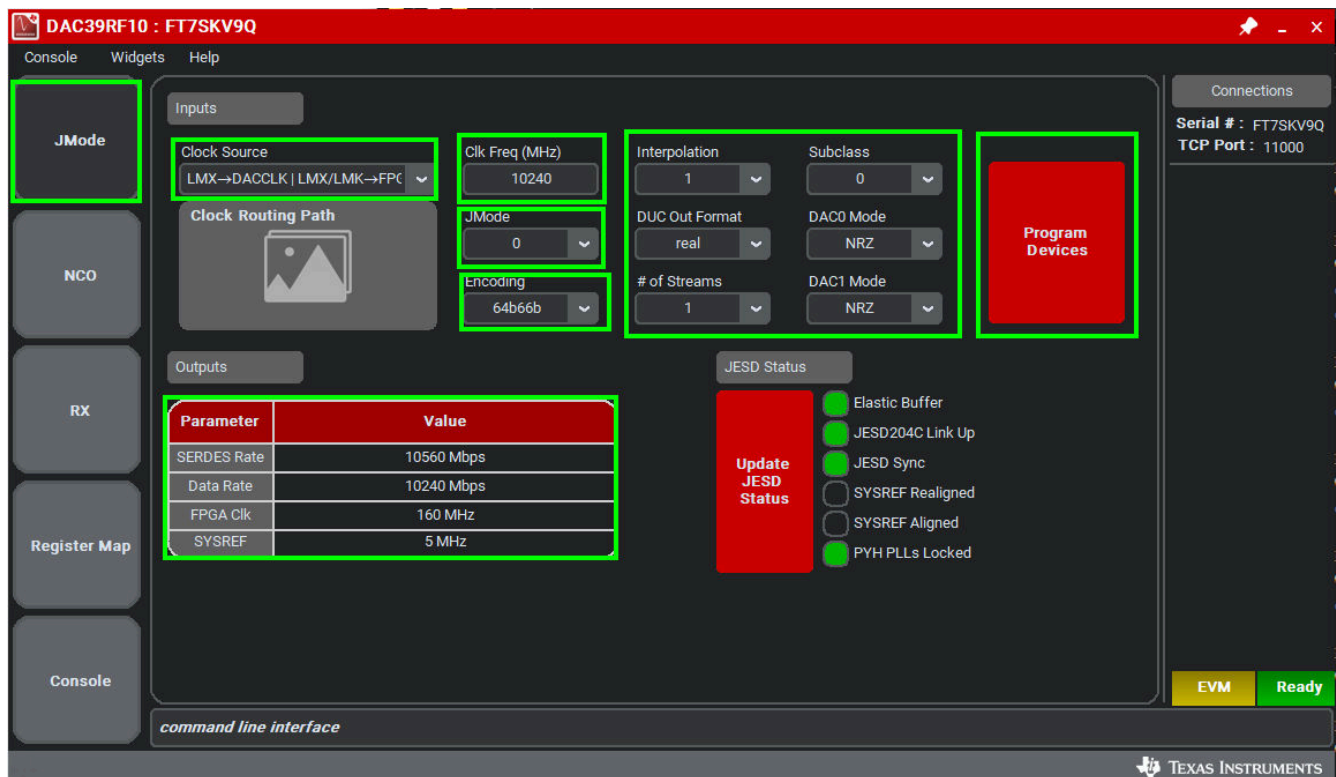
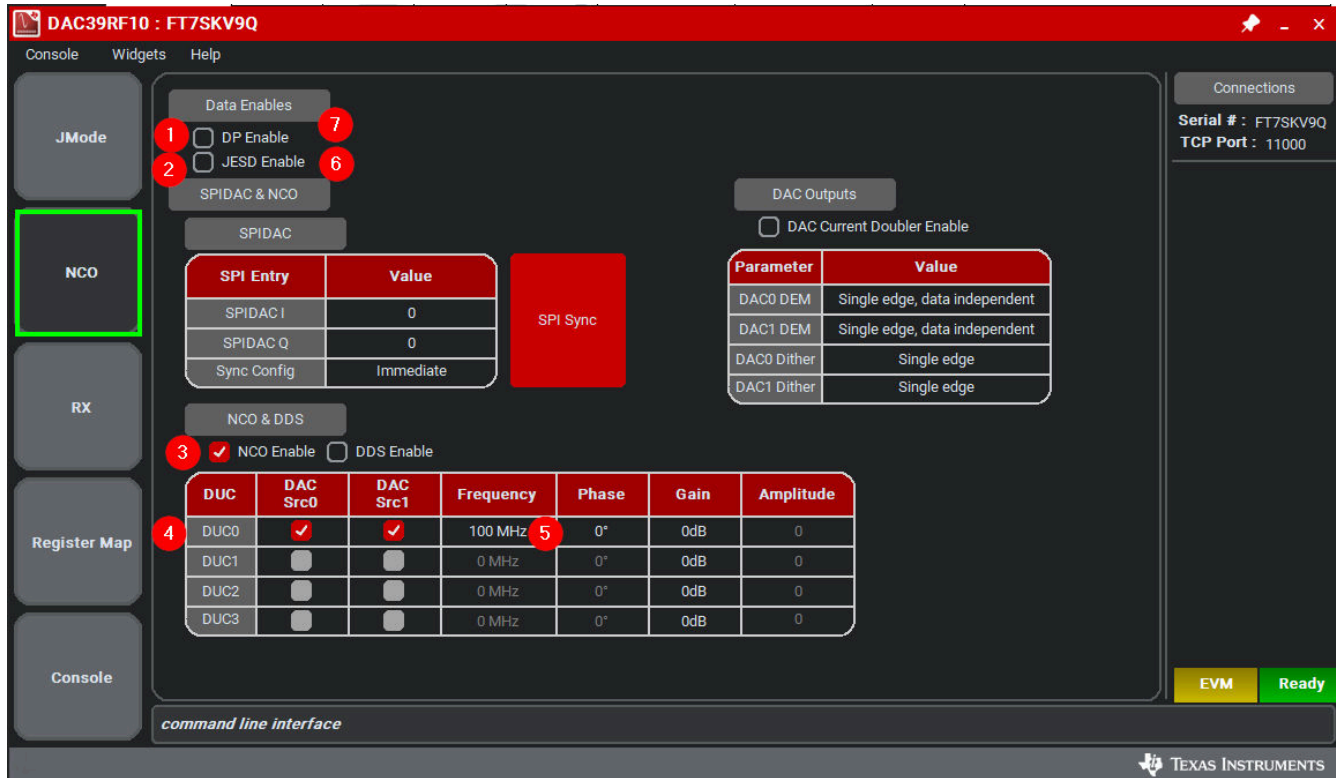

Figure 2-3. Configuration of DAC39RF10EVM GUI
Figure 2-5. NCO TAB CONTROLS
- a. The FPGA REF clock frequency can be obtained from the DAC39RF10EVM GUI. Once the DAC39RF10EVM GUI is configured to the desired JMODE mode and clock rate. The Reference Clock frequency required by the EVM is displayed on first page of the GUI shown in Figure 2-3.
The GUI opened to the *JMODE* tab and *NCO* tab, respectively, is shown in Figure 2-3 and Figure 2-5. Tabs at the left of the panel organize the configuration into device and EVM features with user-friendly controls and a low-level tab for directly configuring the registers. The EVM has three configurable devices, namely the DAC39RF10, LMX1204 and LMK04828. The register map for each device is provided in the device data sheet; see Section 5.1.
6. Enter the data rate as *10.24G* or the desired input data rate. The data rate value can be referenced from the DAC39RF10EVM GUI and is displayed on output parameter as shown in Figure 2-3.